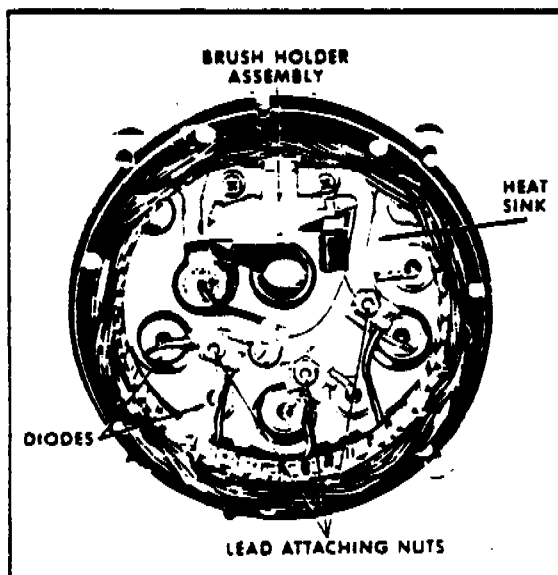

FIGURE 9-18. SLIP RING END FRAME
b. Stator Checks – To check the stator windings, remove all three stator lead attaching nuts (Figure 9-18), and then separate the stator assembly from the end frame. The fit between stator frame and end frame is not tight, and the two can be separated easily.